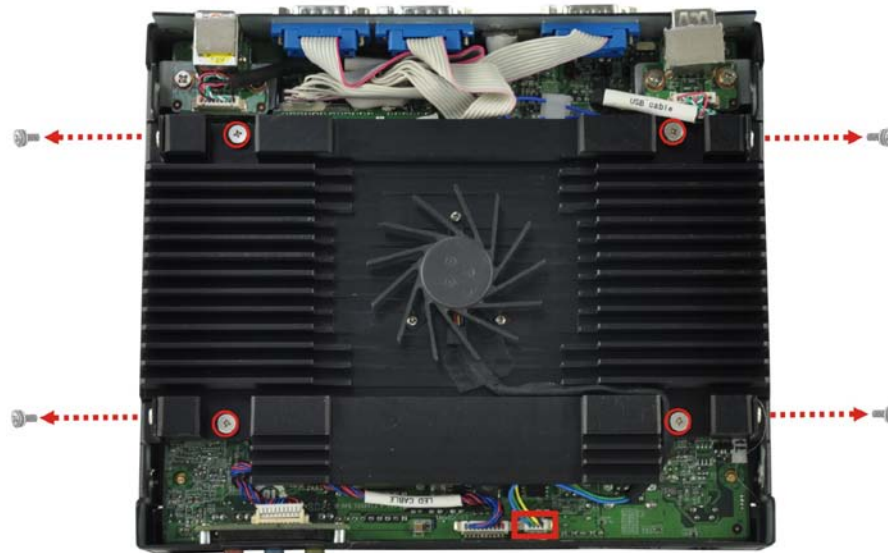

Figure 3-2: Fan Removal
Step 3: Remove the eight fan bracket retention screws and disconnect the fan connector (CPU_FAN1), as shown in **Figure 3-2**.